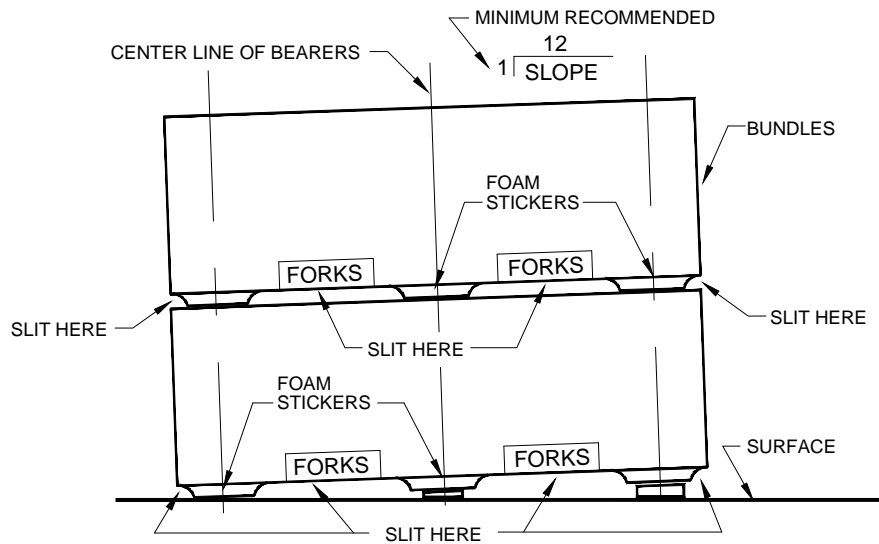

FIGURE 3
- 5.2 IF THE BUNDLES CANNOT BE STORED IN A COVERED PLACE, IT IS NECESSARY TO CUT THE OUTSIDE PLASTIC WRAPPING AND ARRANGE THE BUNDLES IN A WAY THAT THEY ARE INCLINED AT LEAST 5% SO WATER DOES NOT ACCUMULATE, AND MOISTURE BUILD UP BETWEEN PANELS IS AVOIDED. THE CUT SHOULD BE MADE ON THE SIDE OF THE BUNDLE AND BE CONTINUOUS. (SEE FIG. 3 BELOW)
- 5.3 BUNDLES SHOULD BE STACKED NO MORE THAN TWO HIGH AND THE FOAM STICKERS FOR THE UPPER BUNDLE SHOULD BE LOCATED IN LINE WITH THE FOAM STICKERS IN LINE WITH THE LOWER BUNDLE (SEE FIG. 3).
- 5.6 ELEVATE ONE END OF BUNDLES (SEE FIG. 3) DO NOT STORE FOR LONGER THAN 30 DAYS. MOISTURE BETWEEN PANELS CAN CAUSE CORROSION AND OXIDATION OF PAINTED SURFACES CAN OCCUR. DO NOT STAND PANELS ON EDGE OF JOINT NARY OR SAW CUT EDGE. NEVER STORE OR HANDLE PANELS IN A HORIZONTAL POSITION.